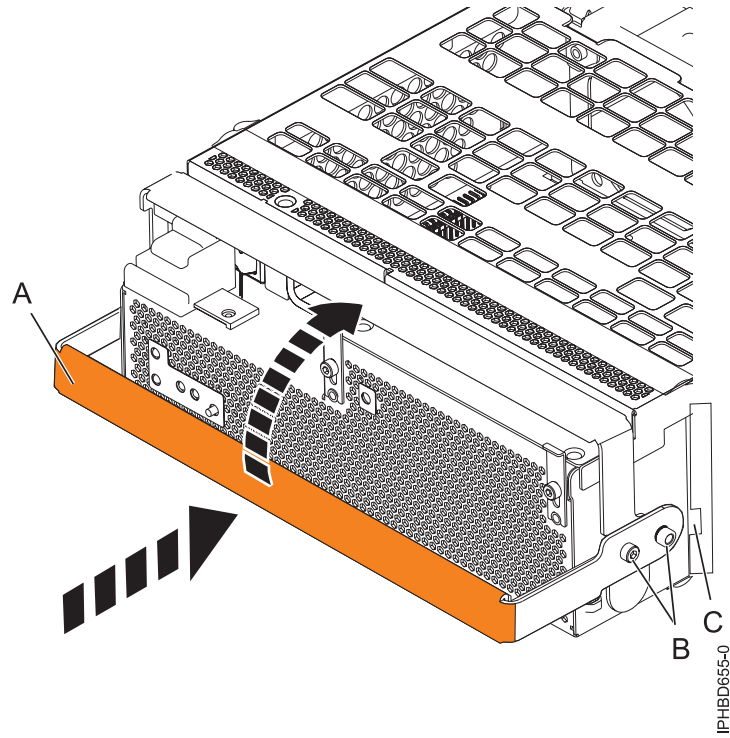

Figure 18. Replacing a power supply
6. To replace the power supply, with the locking handle **(A)** in the open position, push the power supply into the expansion unit as shown in Figure 18 on page 19.